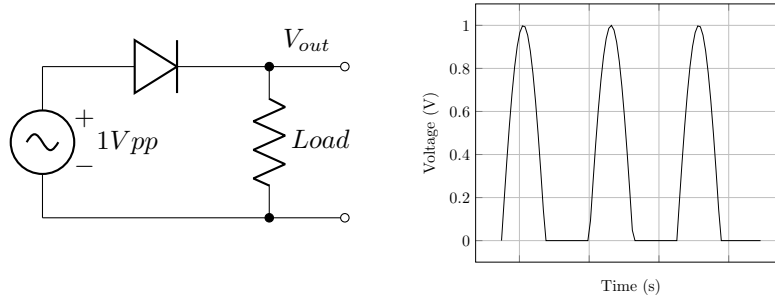

Figure 8: Half-rectified output wave. There is no negative half-cycle of the signal.
Where T is the period of the rectified wave in seconds. For example, a USB charging block that gets plugged into the wall to charge a phone or other mobile device has a rectified output voltage of $5V$ with a 5% ripple, or about a $0.25V$ voltage fluctuation. The $120Hz$ signal coming from the wall outlet will have a rectified frequency of $240Hz$, or a period of $4.1ms$. If the device that is charging has an equivalent load resistance of $1K\Omega$, the capacitor that would effectively smooth the rectified wave would be about $82\mu F$. Bumping this capacitor to a bit more standard value of $100\mu F$ would be fine, and decrease the ripple even more, but might reduce the reaction time of the circuit. This calculation can be used with a half-wave rectifier as well like the circuit in Figure 8, but the frequency will be the same as the input wave instead of double, effectively doubling the capacitance needed to make an equally smooth signal when compared to the full-wave rectifier.
Figure 8 can also be used for half wave power supply, given that the input waveform is a sine wave and the capacitor is of sufficient value to not allow the load to discharge the capacitor between cycles. Assume that the load is $1K\Omega$ and the frequency is 1kHz. Calculate a value for the capacitor to ensure that the value does not sag below 10%. Use Spice to do a simulation, assuming that the input voltage is 10Vpp and the diode is a 1N4148.
1. Construct the circuit in Figure 8 using a 1N4148 diode and a $1K\Omega$ resistor for the load. Use the function generator to generate a sine wave of 1kHz and 5Vpp.